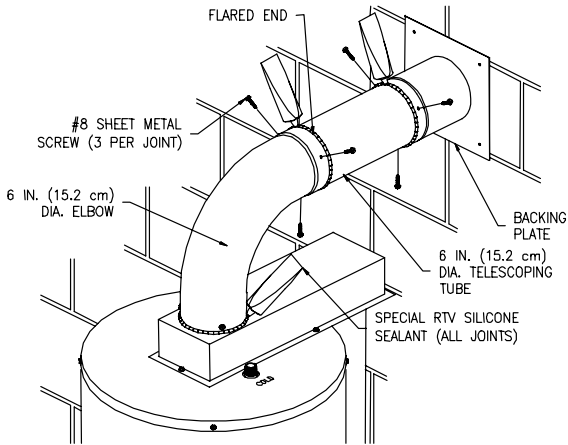

Figure 18
9. From inside the building, slide the backing plate over the six (6) inch (15.2 cm) diameter telescopic tube(s) until it is flush with the wall. Adjust the length of the six (6) inch (15.2 cm) diameter telescopic tube(s) and insert the end into the flared end of the six (6) inch (15.2 cm) diameter elbow one (1) inch (2.5 cm) (*or until seated*). Drill three (3) 1/8 inch (3.2 mm) diameter holes, 120° apart, through the six (6) inch (15.2 cm) diameter elbow into the six (6) inch (15.2 cm) diameter telescopic tube(s) and through the tubes where the small and large sections overlap. Fasten with three (3) #8 sheet metal screws (supplied). Using the supplied RTV silicone sealant, apply a sufficient amount to seal all joints. (See Figure 18).